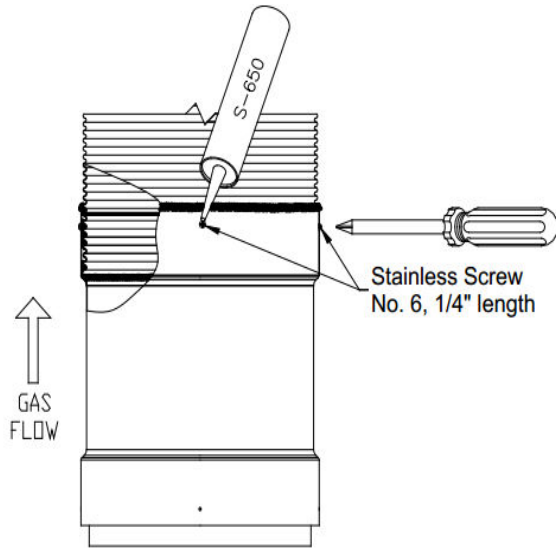

Figure 21 - SecureSeal Flex screws
2.5. Add the red S-650 caulking over the screws (**Figure 21**).